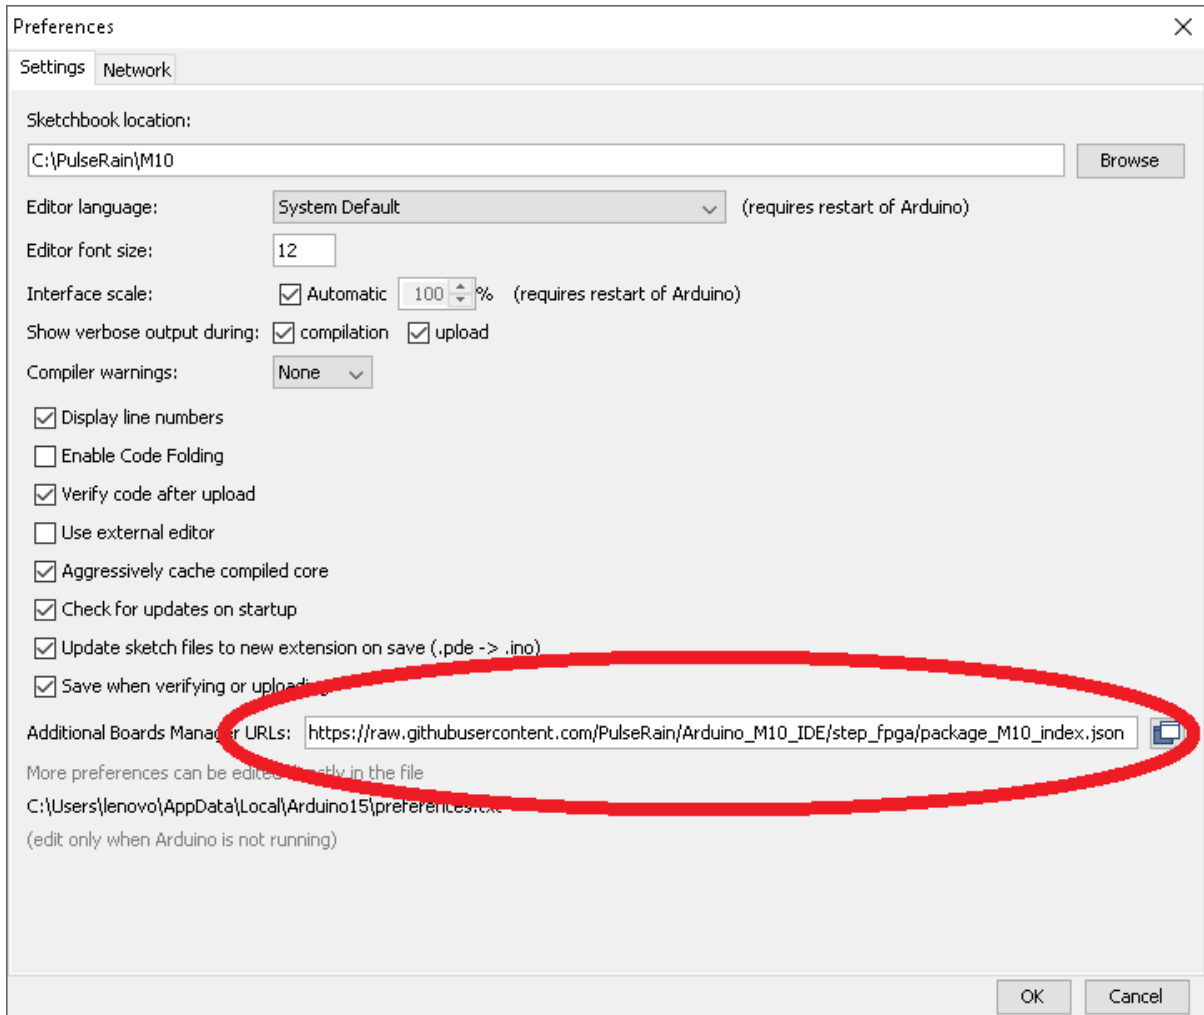

Figure 2-3 Arduino IDE, Preferences Dialogue
- File / Preferences菜单会开启一个如Figure 2-3所示的对话框. 请把"Additional Boards Managers URL"设置为